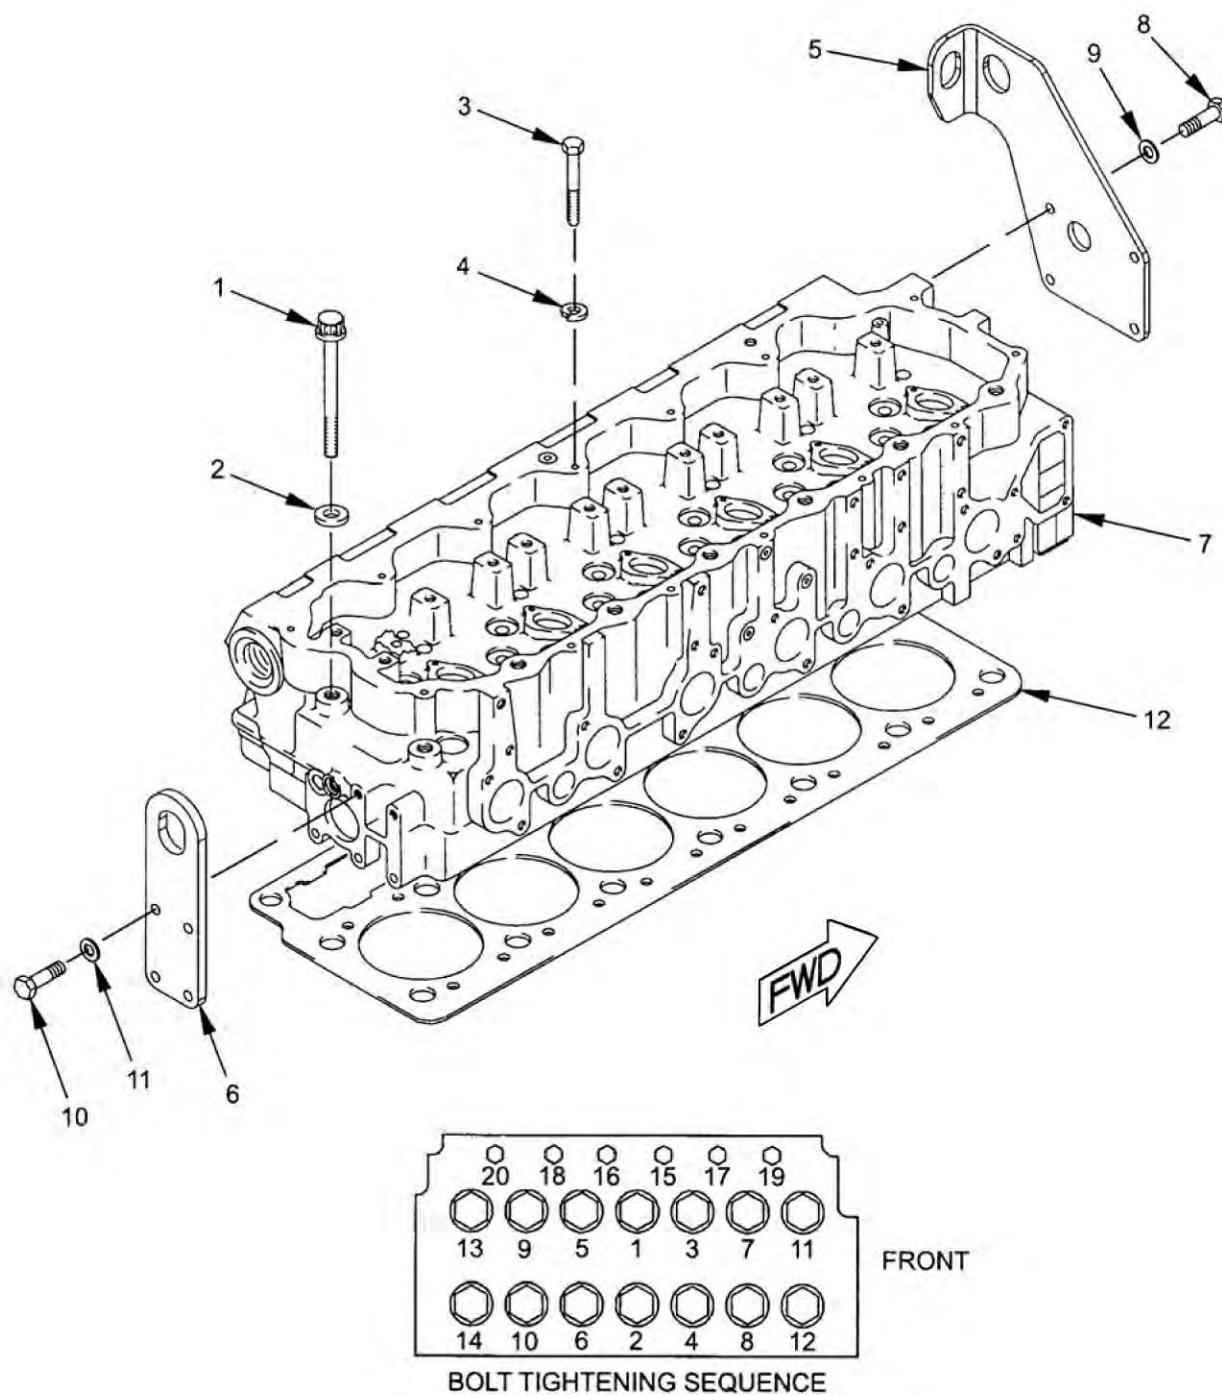

Figure 1. Cylinder Head and Gasket.
1. Remove fourteen bolts (Figure 1, Item 1) and ring spacers (Figure 1, Item 2).
2. Remove six bolts (Figure 1, Item 3) and lock washers (Figure 1, Item 4).
3. With lifting device attached to front lifting bracket (Figure 1, Item 5) and rear lifting bracket (Figure 1, Item 6), carefully lift cylinder head (Figure 1, Item 7) straight up away from engine block.
4. Remove four bolts (Figure 1, Item 8), lock washers (Figure 1, Item 9), and front lifting bracket (Figure 1, Item 5).
5. Remove four bolts (Figure 1, Item 10), lock washers (Figure 1, Item 11), and rear lifting bracket (Figure 1, Item 6).
6. Remove gasket (Figure 1, Item 12).
1. Install rear lifting bracket (Figure 1, Item 6) on cylinder head (Figure 1, Item 7) with four lock washers (Figure 1, Item 11) and bolts (Figure 1, Item 10).
2. Install front lifting bracket (Figure 1, Item 5) on cylinder head (Figure 1, Item 7) with four lock washers (Figure 1, Item 9) and bolts (Figure 1, Item 8).
3. Place gasket (Figure 1, Item 12) on engine block.
4. With lifting device attached to front lifting bracket (Figure 1, Item 5) and rear lifting bracket (Figure 1, Item 6), carefully position cylinder head (Figure 1, Item 7) straight over engine block and carefully lower cylinder head onto engine block.
5. Apply engine oil to threads of fourteen bolts (Figure 1, Item 1) and six bolts (Figure 1, Item 3).
6. Install fourteen ring spacers (Figure 1, Item 2) and bolts (Figure 1, Item 1). Install six washers (Figure 1, Item 4) and bolts (Figure 1, Item 3).
7. Torque fourteen bolts (Figure 1, Item 1) in sequence shown to 210-232 lb•ft (285-315 N•m).
8. Loosen fourteen bolts until ring spacers (Figure 1, Item 2) are loose.
9. Torque fourteen bolts (Figure 1, Item 1) in sequence shown to 85-107 lb•ft (115-145 N•m).
10. Re-tighten fourteen bolts (Figure 1, Item 1) in sequence shown to 85-107 lb•ft (115-145 N•m).
11. Tighten fourteen bolts (Figure 1, Item 1) in sequence shown an additional one-fourth turn.
12. Torque six bolts (Figure 1, Item 3) to 36-45 lb•ft (48-62 N•m).